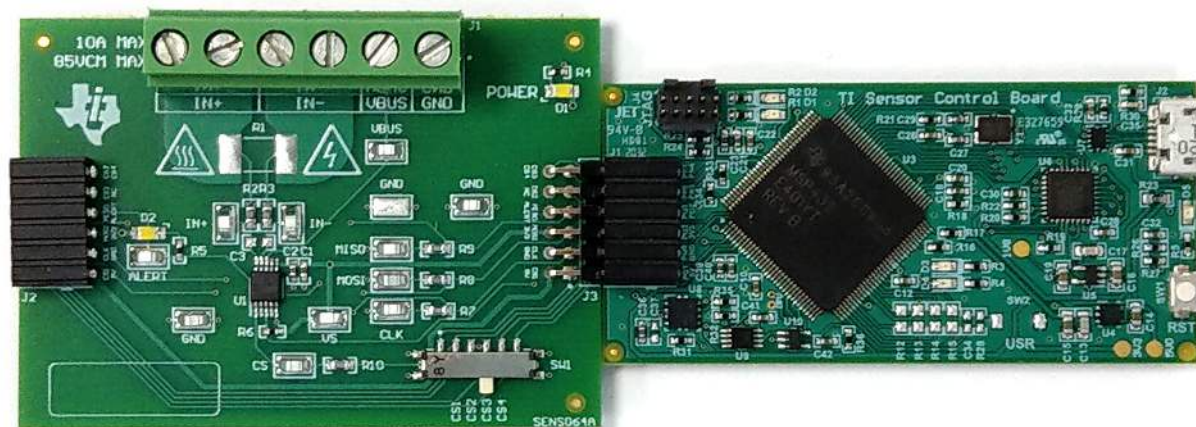

Figure 4-1. EVM (Left) Connected to SCB Controller (Right)
3. Attach the EVM to the SCB Controller as shown in Figure 4-1.
To use the EVM with the SCB Controller (sold separately), connect the EVM as shown in Figure 4-1.